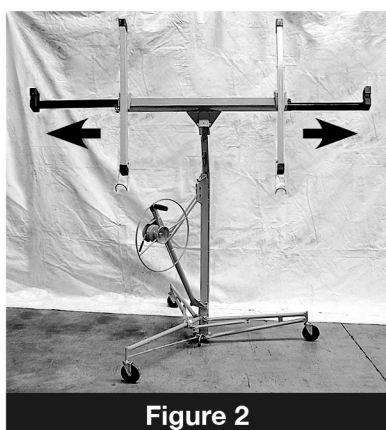

Figure 2
3. Extend the cross arm outriggers on the cradle as needed to fully support the length of the plasterboard sheet (see Figure 2).